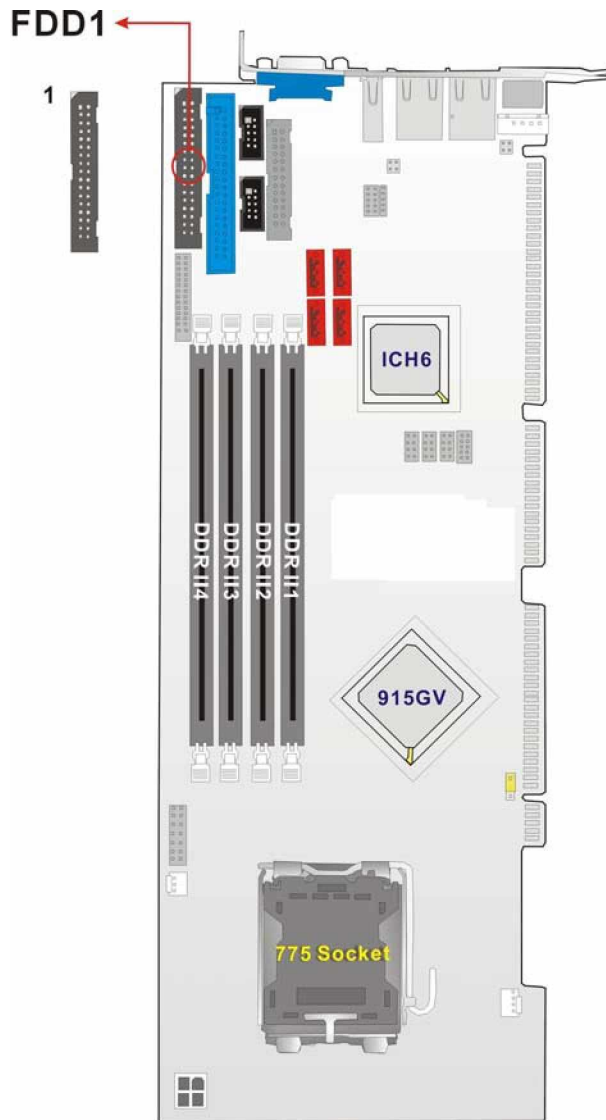

Figure 3-2: FDD Connector Location
- CN Location:** See **Figure 3-2**